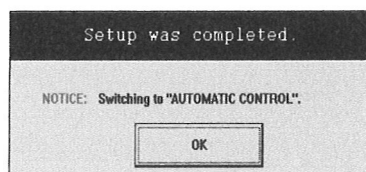

Fig.28
- ⑤ Clicking on "SETUP" at this point changes the previous settings to the new settings just entered. However, the flowmeter output also changes with the changes in settings made. For safety's sake, therefore, in applications where the flowmeter output controls valves or other devices, it is suggested that the affected control loop be switched to manual control so as to keep the control loop free from the influence of flowmeter output. Clicking of "SETUP" and transferring the settings made on the PC to the flowmeter causes an indicator "○○" at top right of the screen to come on in light blue, eventually turn to yellow and then light blue again before it goes out. A message box like the one in Fig. 28 appears. Click on "OK" button to complete the setup.